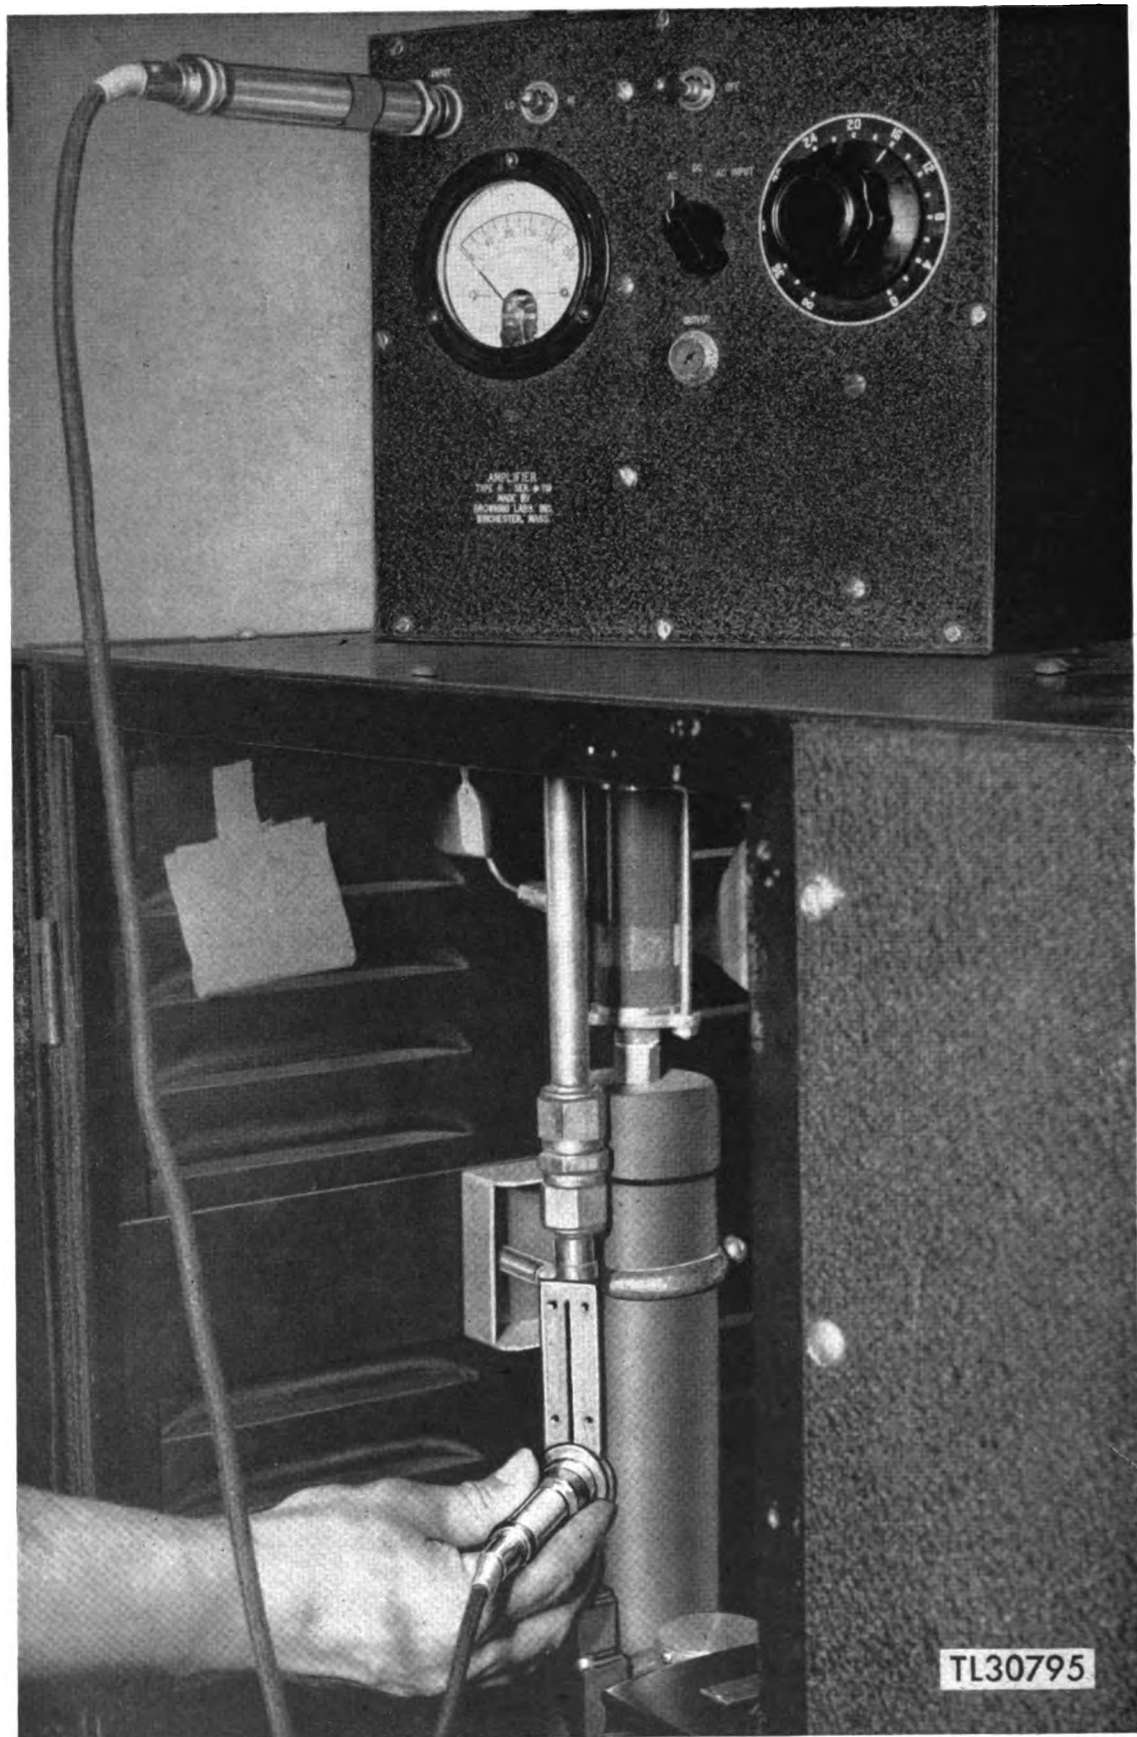

Figure 27. Measuring standing-wave ratio.
d. Place the other end of the bolometer test cable (bolometer probe) into the exposed slot of the r-f line (fig. 27). Turn the probe-holder until it fits snugly over the flat surface of the slotted section.
(1) Feel the r-f line (both below and above the slotted section) in the transmitter cabinet. Also feel the section of the line between the transmitter and the antenna. Note any point which seems to be abnormally hot and replace the section of line in which the hot spot is found.
(2) Listen along the r-f line for a high-pitched buzz. Such a sound indicates the arcing of r-f energy within the line. If an arc is found, replace the section of line in which the arc occurs.
(3) If no arc has been discovered, the line should be taken apart and inspected for loose or missing silver bullets.
(4) If none of the above steps aids in localizing the high standing-wave condition, spare sections of r-f line (if available) should be substituted in their appropriate places until the ratio, maximum reading divided by minimum reading, does not exceed 2.25.